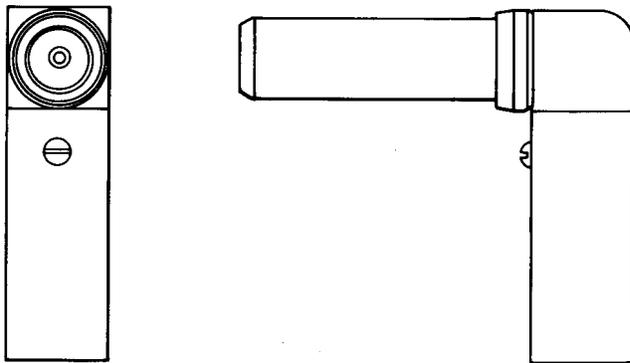

Fig. 17—469A Plug
**2.17 469A:** The 469A (Fig. 17) is a coaxial-type, right-angle, 75-ohm, terminating plug equipped with a KS-16312, L6D resistor. The 469A plug is arranged to mate with the 558A, 560A, 561A, and 562A jacks and is used in the 300A Protection Switching System.